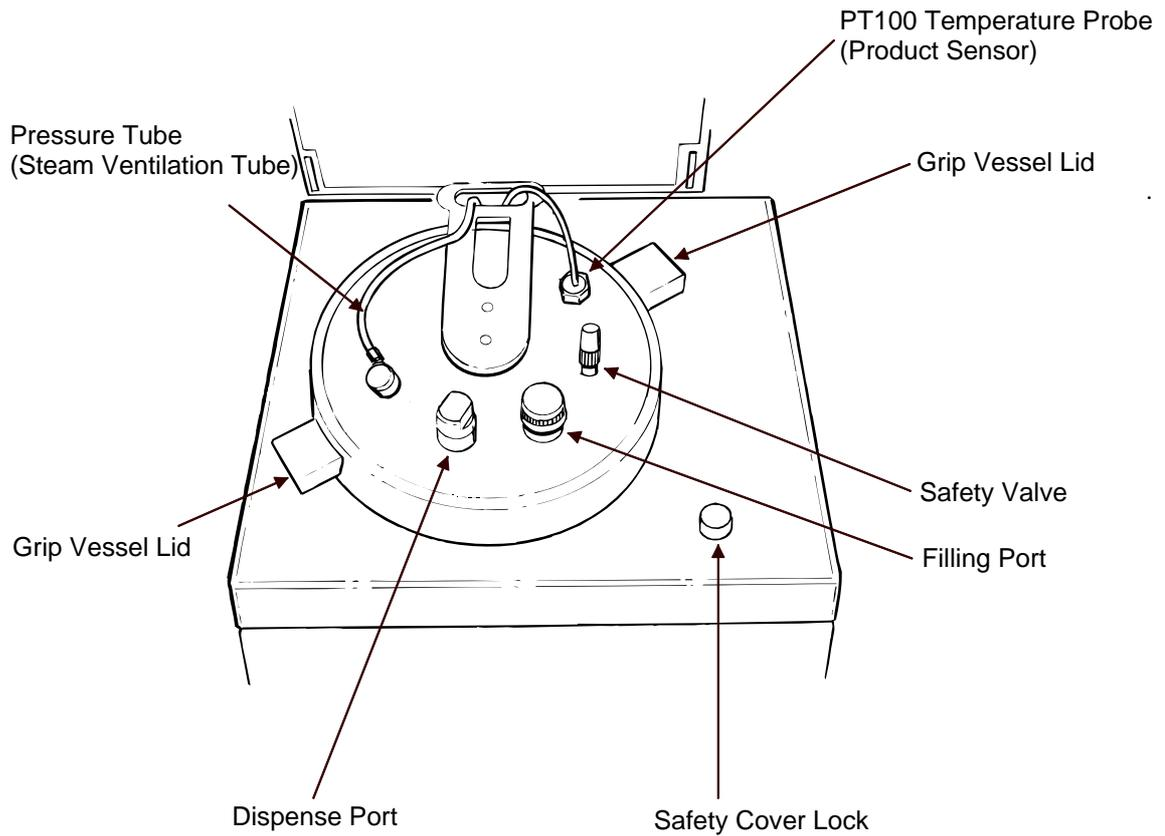

Figure 2.1: Vessel lid
1. Press the silicone decanting tube onto the dispense fitting nipple which is located on the underside of the vessel lid's dispense port (see figure 2.1)